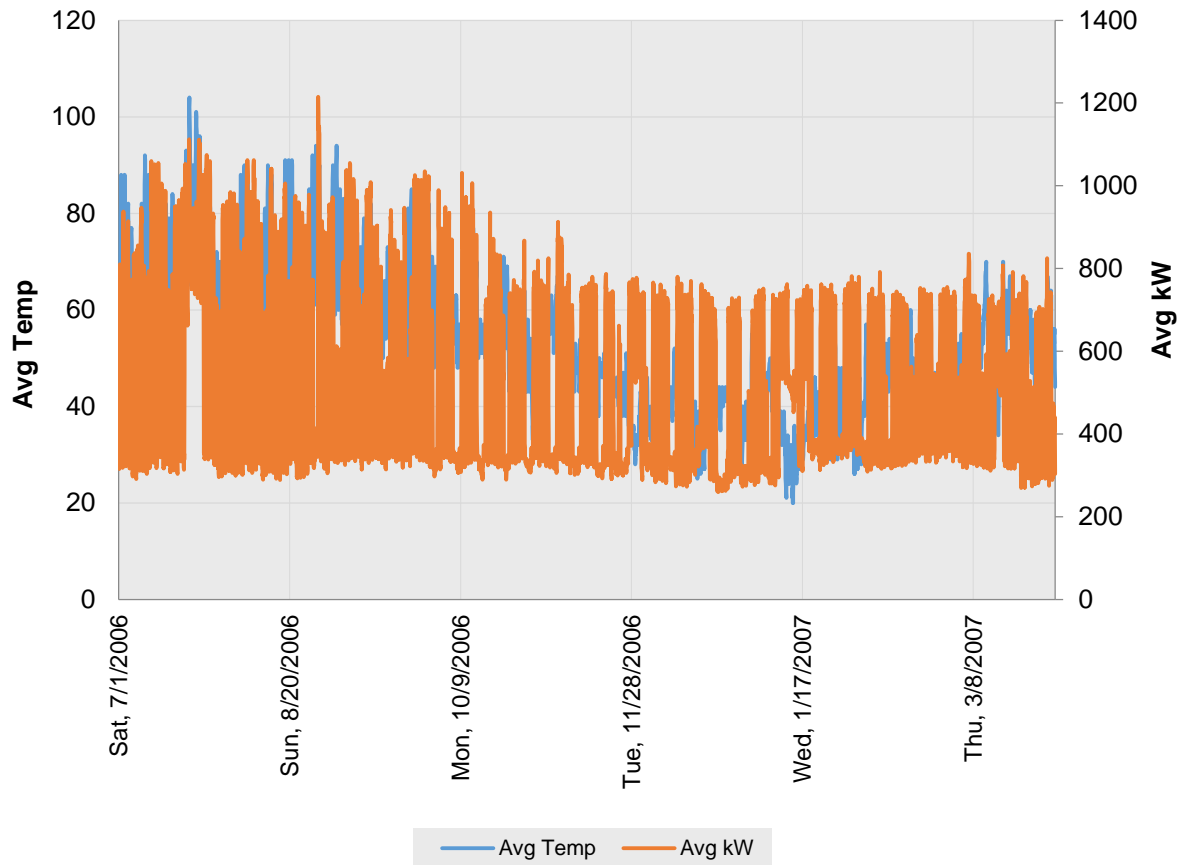

Figure 102: Points History Chart of Temperature and kW
- Interval data will look very "spiky", as shown in Figure 102: